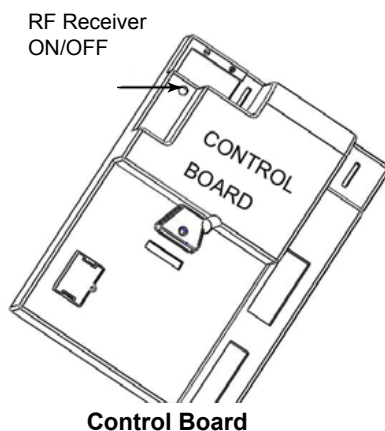

Figure 39
1. The RF receiver button on the control board in the fireplace must be in the on position before the learn function can begin. Figure 39. With the Command Center master switch in the ON position, use paper clip to depress the recessed button on Control Board, one beep for RF receiver ON or two beeps for RF receiver OFF.